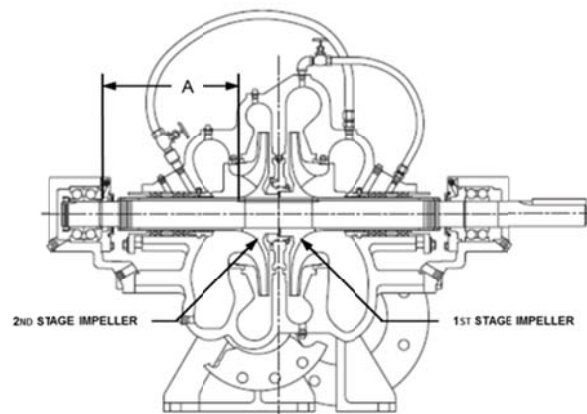

Fig. 22 Series 8200 Impeller location
2. Identify the first and second stage impellers [4-002-0] by the casted label, and locate the second stage impeller on the shaft in accordance with Fig. 22 and Table 11.